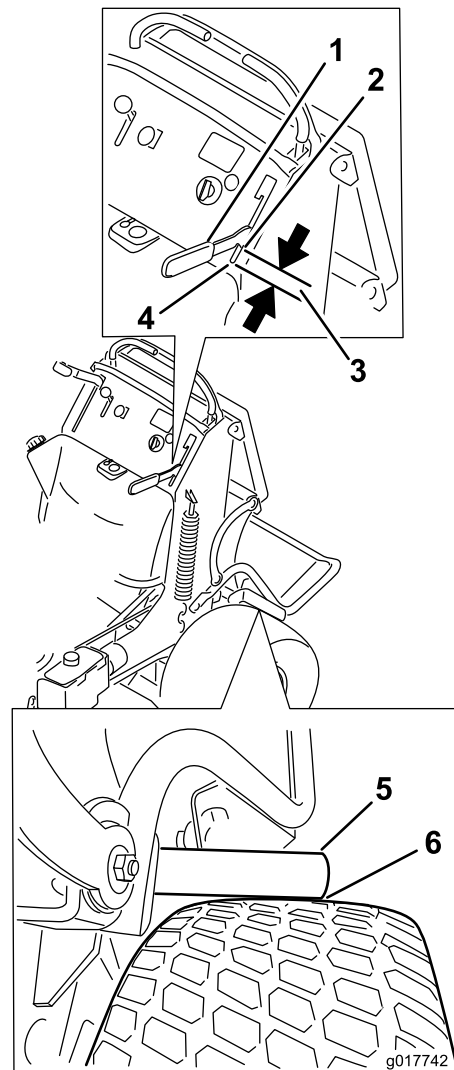

Figure 70
4. Engage the brake lever until the brake bars first contact the tire (Figure 70).
5. Measure the gap from the front of the hand lever to the end of the slot in the control panel when the brake bar contacts the tire. This measurement needs to be 3/4 inch (19 mm). Adjust the brake if needed (Figure 70).